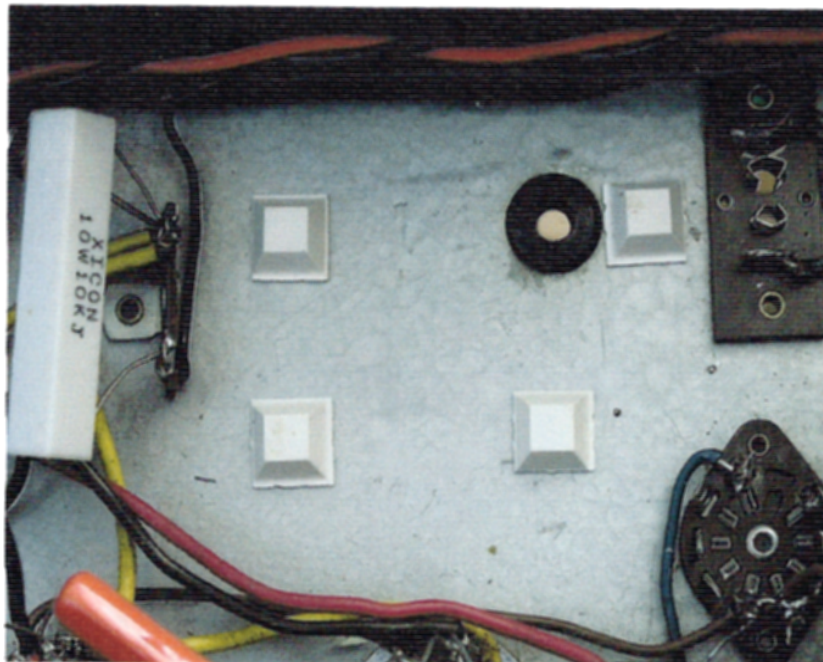

Figure 1. Bumper Installation
3. (Figure 1) Clean the chassis surface where the card is to mount. Attach the 4 rubber feet to the chassis in the position shown.